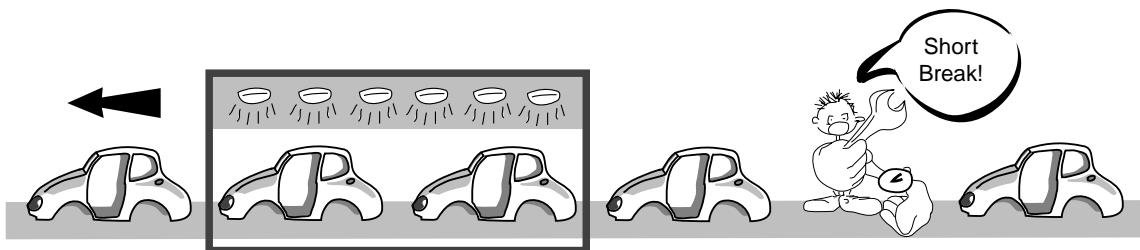

Figure 3-23: Peak Hold Example
In a car plant, body parts are moved on a conveyor belt through a hardening oven to harden the metallic paint. Normally a new body passes through every two minutes. The temperature of the oven must be kept relatively constant, if possible, even if no new parts move into the oven for short periods (for breaks or for short technical stoppages). So practically speaking, we have the following case (Figure 3-23):
In the example in Figure 3-23: No new car bodies enter.
In the example in Figure 3-23: the conveyor belt temperature is below the bottom of the temperature range. For example, 475°C for FA1A.
- Set HOLD TRIGGER TEMPERATURE high enough that all "irrelevant" input values are suppressed. In the example in Figure 3-23 the bodywork parts have a higher temperature than the moving conveyor belt. HOLD TRIGGER TEMPERATURE was set above the conveyor belt temperature (2-way command "C").